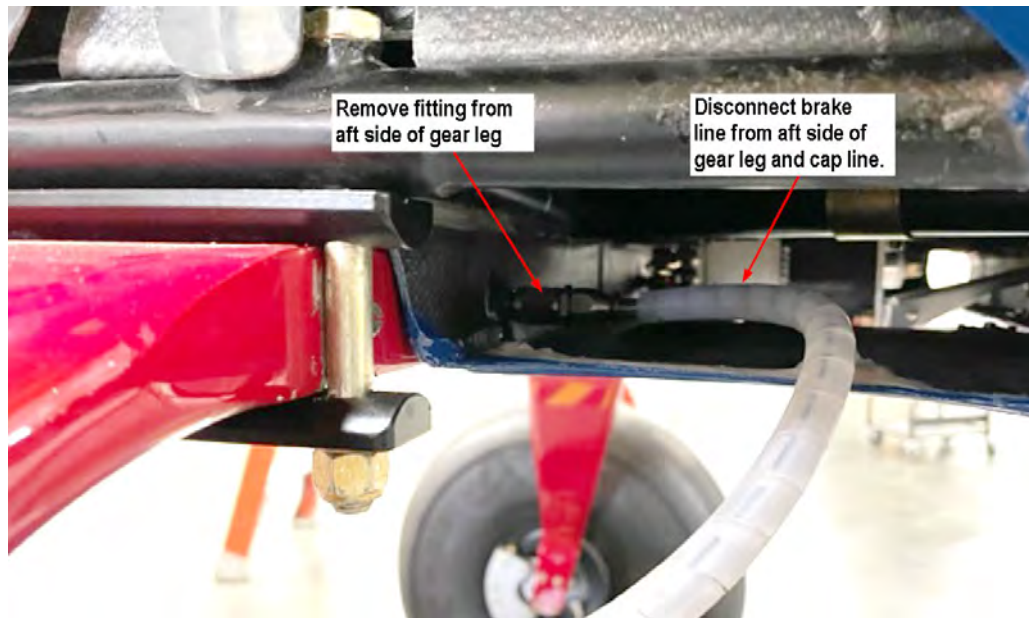

Figure 8 – Existing Brake Lines
17. Disconnect brake lines where they connect to the aluminum fittings on the aft side of the taildragger spring gear leg and temporarily cap the lines. (see Figure 8)
18. Remove the two aluminum fittings threaded into the aft side of the gear leg where the brake lines were connected. (see Figure 8)